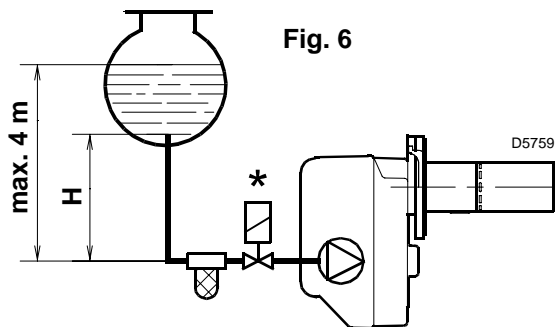
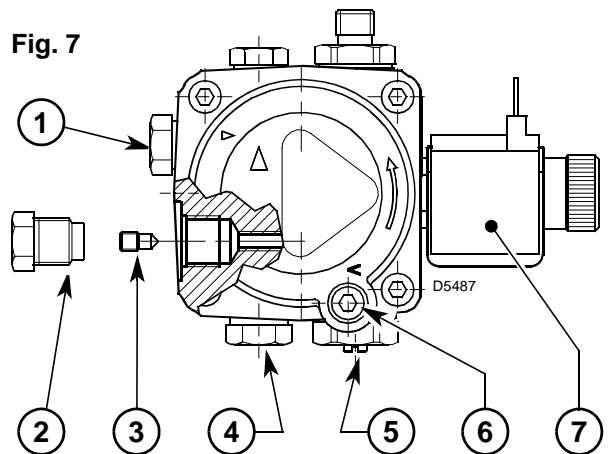

Fig. 6
Fig. 7
- The pump is designed to allow working with two pipes. In order to obtain one pipe working it is necessary to unscrew the return plug (2), remove the by-pass screw (3) and then screw again the plug (2). (See fig. 7).
On the system in fig. 6 it is sufficient to loosen the suction gauge connection (6, fig. 7) and wait until oil flows out.